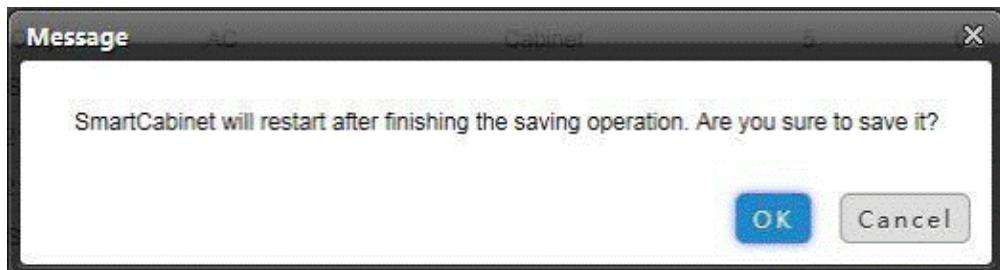

Figure 4-84 SmartCabinet Restart message
- » Click Add following which the screen displays a message stating that the SmartCabinet will restart after the configuration settings are saved. The prompt is displayed in Figure 4-84.